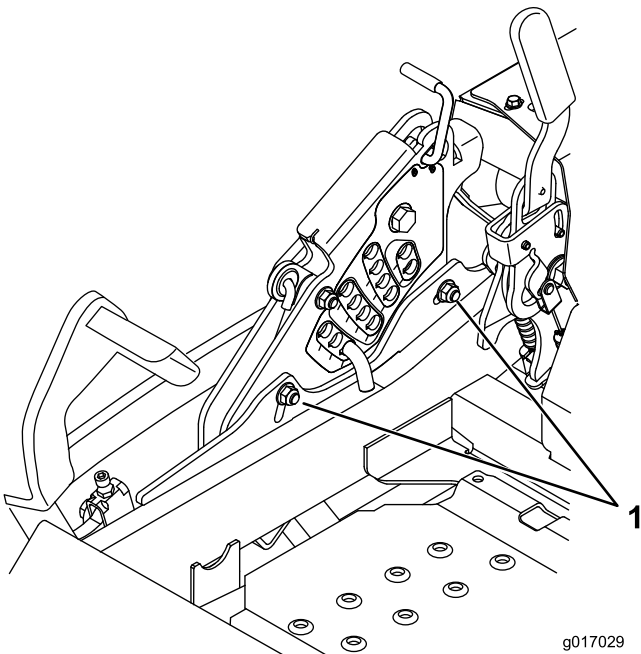

Figure 87
- To adjust the single point system, loosen the two bolts at the bottom of the height of cut plate. Refer to Figure 87.
- Tighten the two bolts at the bottom of the height of cut plate (Figure 87). Torque to 37-45 N-m (27-33 ft-lb).